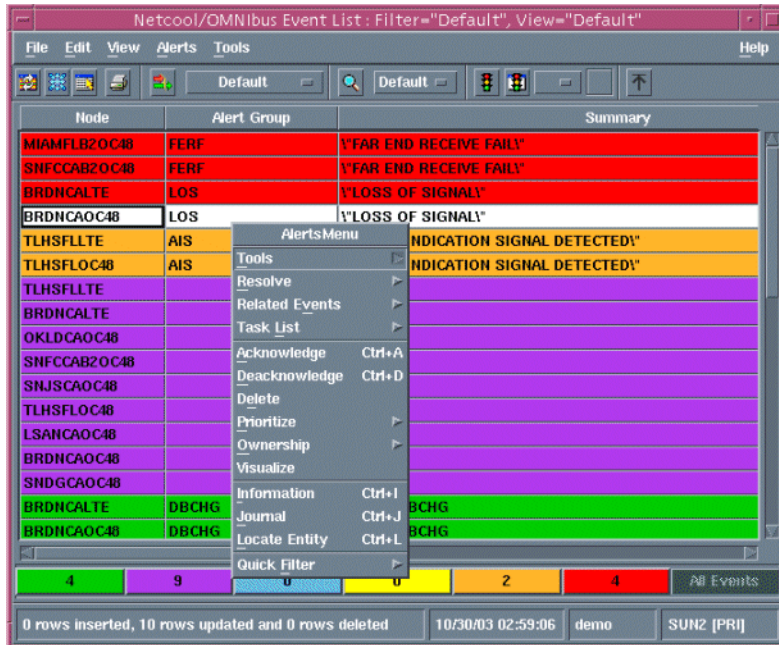

Figure 15. Visualize menu
- Right-click an alert in the event list and select **Visualize** from the context-sensitive menu, as shown in Figure 15.